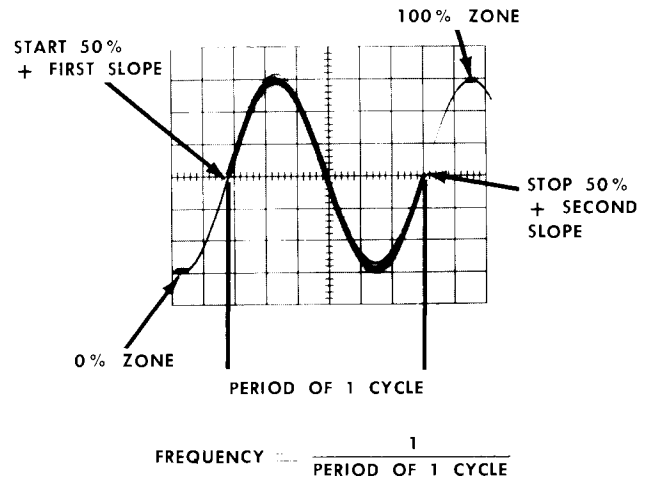

Fig. 2-6. Frequency measurement.
1. Adjust the horizontal time-base plug-in unit to display $1\frac{1}{2}$ cycles or pulses (see Fig. 2-6).